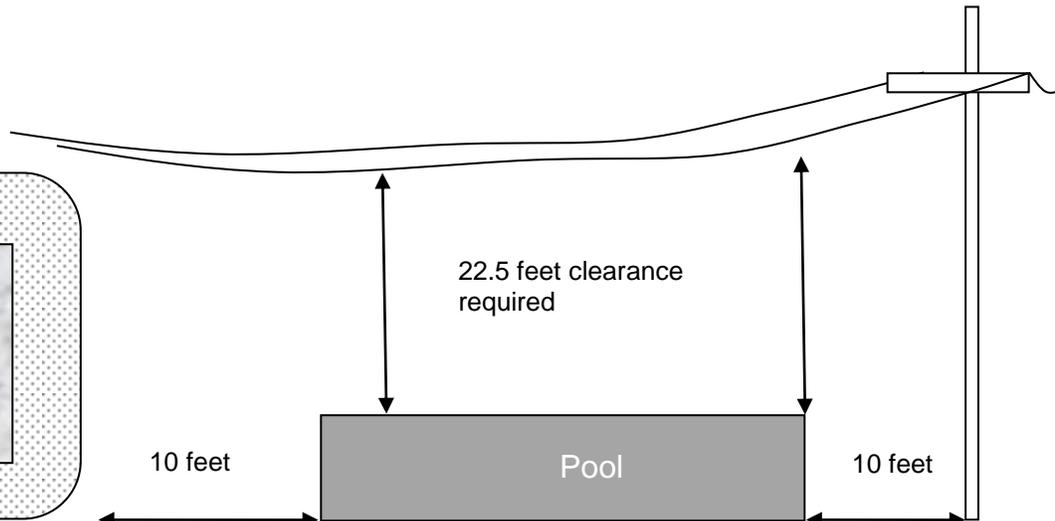

Figure 3
8. There shall not be any overhead electrical conductors within ten feet (10') of the spa/pool (Fig.3). (NEC 2005 Art. 680.8)